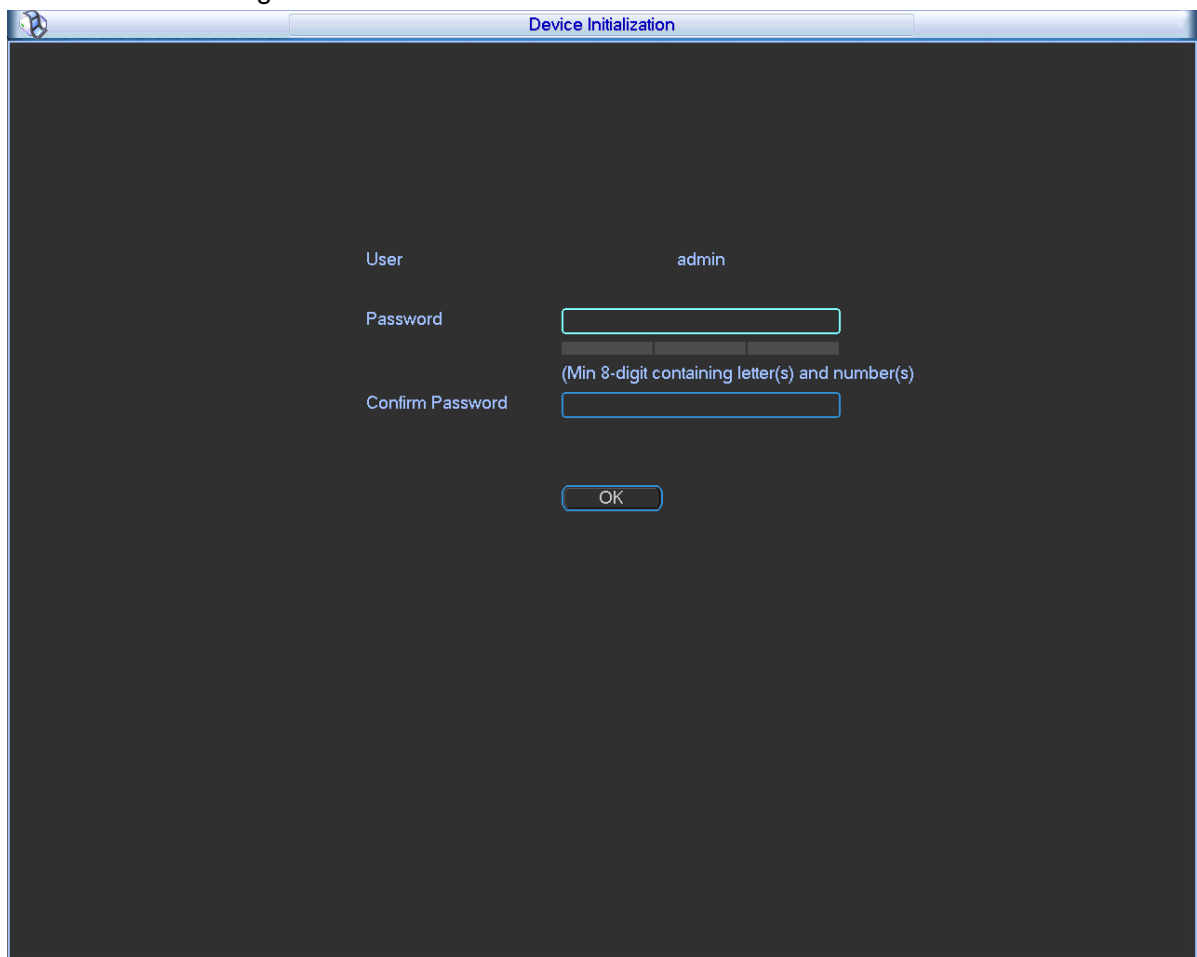

Figure 3-1
Step 1 After you properly turn on the device, the system pops up “Device Initialization” interface, as shown in Figure 3-1.